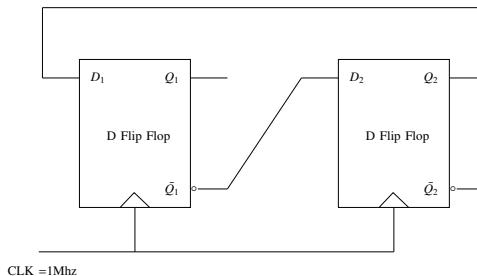

Fig. 5.7
7. In a given sequential circuit in Fig. 5.7, initial states are  $Q1 = 1$  and  $Q2 = 0$ . For a clock frequency of  $1MHz$ , find the frequency of signal  $Q2$  in kHz (rounded off to the nearest integer).